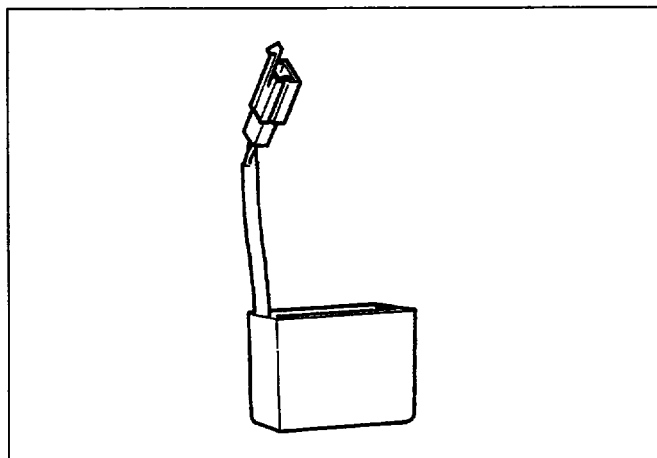

Fig. 9-6
- Use a "Dr. Robin" in capacitance meter mode to check the capacity of condensers. (See Fig. 9-6.)